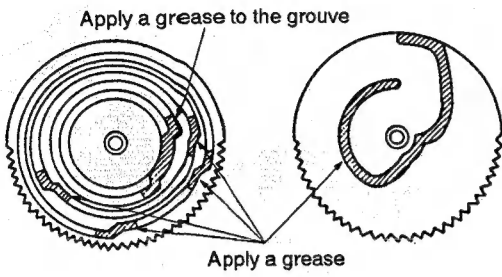

Fig. 10
- ① Grease the cam gear. (Fig.10)